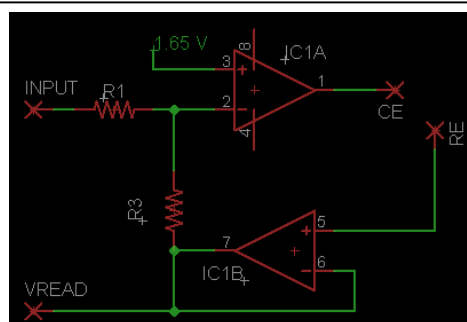

Figure 1. Simplified schematic of voltage establishing potentiostat circuit.
required for its installation and use. To understand what is going on, we first consider a simplified representation of the circuit that is used to establish voltages at the reference electrode. The schematic, presented in Figure 1, shows an input voltage on the top left that is fed to the inverting pin on amplifier IC1A. The non-inverting pin for this amp is held at 1.65 volts (half way between ground and the +3.30 volt logic level of the microcontroller we use) and the output is connected to the Counter Electrode (CE) lead. The reference electrode lead (RE, top right in Figure 1) is connected to the non-inverting pin on amplifier IC1B and the inverting and output pins for this
counter electrodes have some electrically conducting pathway between them (such as the migration of ions in the cell or some redox process that affects the measured voltage at RE). A problem occurs when one of the electrodes is removed from the cell. In this situation, the feedback loop is broken and the voltage at the counter electrode lead will most likely spike to one of its possible extremes. To mitigate this issue, we have developed two strategies for implementing a kill switch that sets the voltage at the counter electrode equal to that at the working electrode (WE is not represented in Figures 1 or 2, but is held at 1.65 volts). These two strategies are represented in Figures 2A and 2B.
The circuit in Figure 2A differs from that in Figure 1 by the inclusion of a switch (SW1) between the output and inverting input terminal of IC1A. If the switch is closed between experiments, then the voltage at the counter electrode is fed back to the inverting terminal. Under this condition, the voltage at CE is equal to that of the non-inverting pin, +1.65 volts, which is also the voltage at the working electrode. When the voltages of the working and counter electrodes are equal, no current passes.